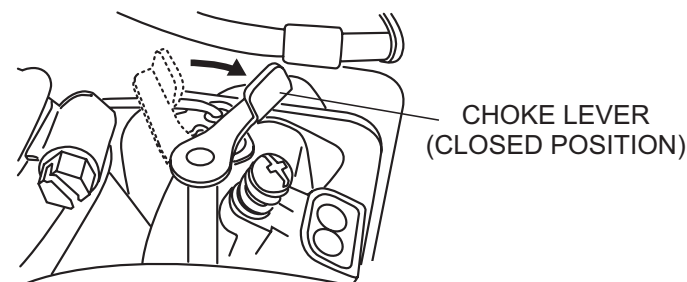

Figure 7. Choke Lever
2. Place the choke lever to the closed position (Figure 7). When the weather is cold, close the choke all the way. When it is hot, or if the engine is hot, open the choke a little or leave it fully open.